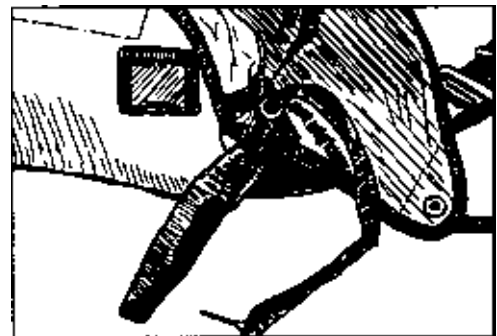
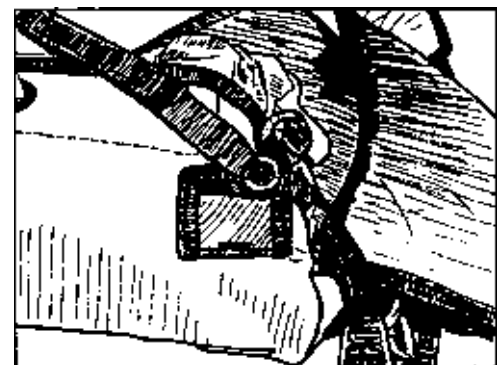

Figure 3
Figure 4
Step 3 Place the pilotchute under the bottom main closing flap so that handle and lanyard are at the bottom right of the container. *Figure 3* "S" fold the bridle and place under the pilotchute. Make sure that the lanyard is clear and free to move through the grommet on the bridle. Insert the tab below the grommet on the bridle into the elastic keeper built into the handle stow pocket. *Figure 4*